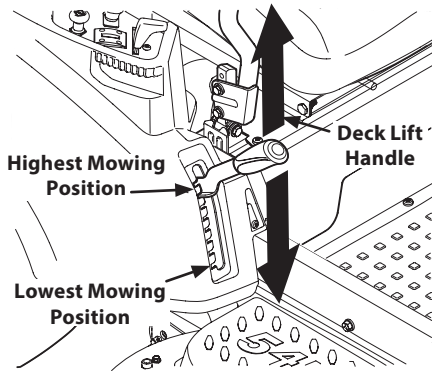

Figure 4-10
- A voltmeter or load tester should read 12.6 volts (DC) or higher across the battery terminals. See Figure 4-10.
- a. Using the deck lift handle, raise the deck to the position that provides the most horizontal run of the belt between the deck idler pulleys and the PTO pulley on the bottom of the engine. See Figure 4-10.
- d. Lower the deck into the lowest mowing position using the deck lift handle. See Figure 4-10.
- e. Lower the deck into the lowest mowing position using the deck lift handle. See Figure 4-10.
8. Place the deck lift handle into the highest mowing position and slide the deck out from beneath the tractor. See Figure 4-10.
1. Place the deck lift handle in the highest mowing position. See Figure 4-10.